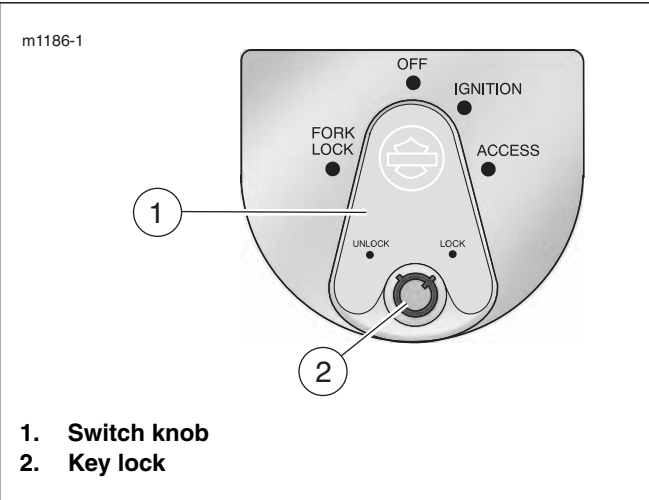

Figure 2. Switch Knob and Key Lock Positions
See **Operation** and Figure 2. After installation of the replacement switch, explain the new operation procedures of the fork lock to the customer.
- 1. See Figure 2. Turn the front forks to full left lock and insert ignition key into key lock (2).
- 2. Turn switch knob (1) to FORK LOCK and push knob down.